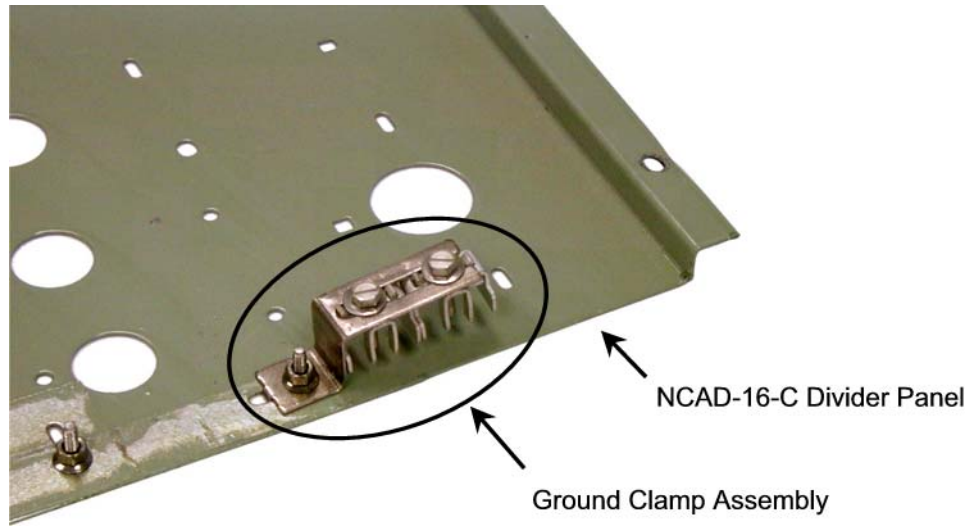

Figure 16. NCAD-16-C Divider Panel and Ground Clamp Assembly
1. Locate the ground clamp assembly on the divider panel previously removed from the pedestal (Figure 16).